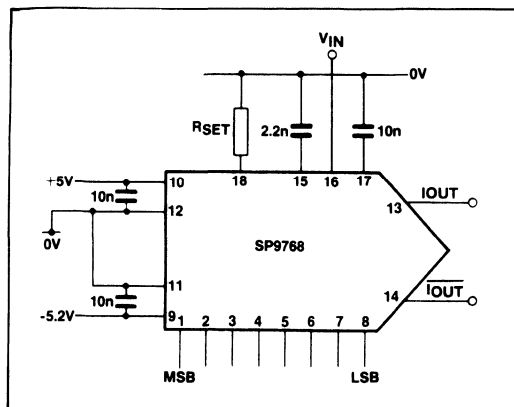

Fig.5 Multiplying mode operation (voltage mode)
**Voltage** A circuit for using the DAC in voltage multiplying mode is shown in Fig.5. The transfer function is